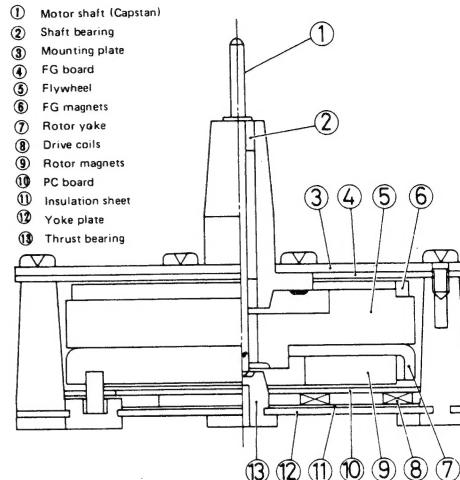
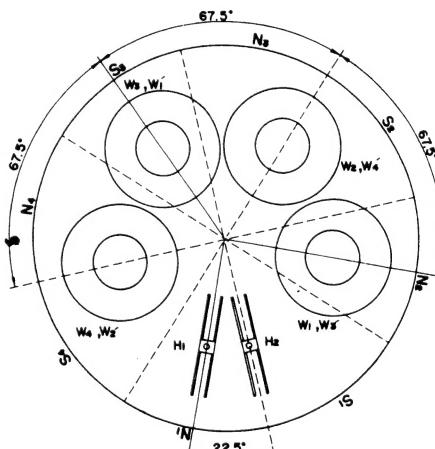

Fig. 6
Fig. 7
This motor is an opposed-plane no-commutator motor which incorporates an RPM detecting mechanism (FG) as shown in Fig. 6. The rotor consists of drive magnets and that combination of a Zn diecasting flywheel and FG magnets which enhances the effect of the flywheel. The four pairs of drive magnets (8 poles), magnetically attached in one plane, and their opposed plane yoke form the magnetic circuit. Since the plane yoke is of slotless construction, motor torque unbalance (cogging) due to magnetic unbalance hardly occurs. In addition, the two Hall elements and four drive coils, supported by a PC board, are positioned between the drive magnets and the plane yoke as shown in Fig. 7.